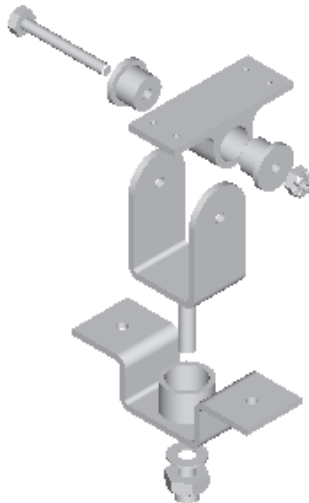

Figure 9-54 Exploded state of the assembly
11. Choose the **Position** option from the submenu. The **Explode Position** dialog box is displayed. Select the axis of the Hexagonal bolt and move Bushings, Hexagonal bolt, and Castle nut as shown in Figure 9-54.